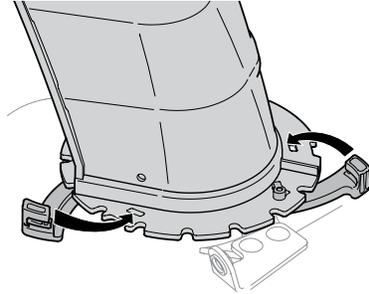

Figure 2-10
2. Close flange keepers to secure chute assembly to chute base. Flange keepers will click into place when properly secured. See Figure 2-10.